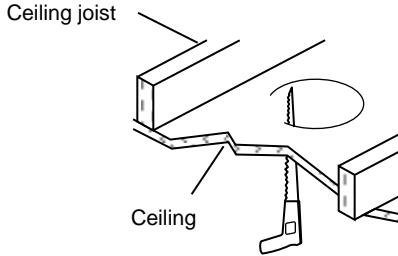

Fig. 1
2. Using a keyhole saw make a 4 1/4 " hole in the ceiling surface. (Fig. 1) (**Note:** Be sure not to make the hole any larger than specified by the template. An oversized hole may not allow for proper installation.)